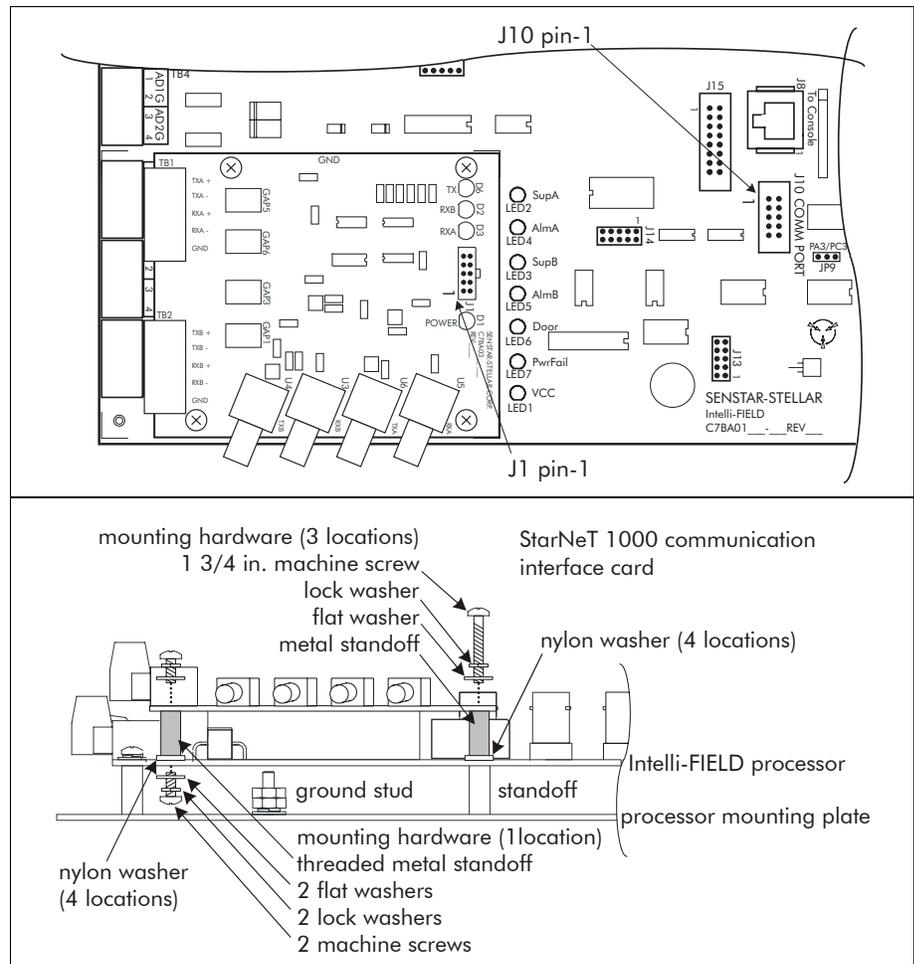

Figure d-2 Installing the com card
2. Using the supplied metal standoffs and mounting hardware, mount the interface module as indicated in Figure d-2 (you may have to remove the processor from the mounting plate).
5. Connect the 10-pin ribbon cable assembly to J10 COMM PORT on the Intelli-FIELD processor and J1 (the 10-pin header) on the communication interface card. Ensure that pin 1 on the ribbon cable (indicated by a red stripe) is installed correctly at both connectors (see figure d-2).